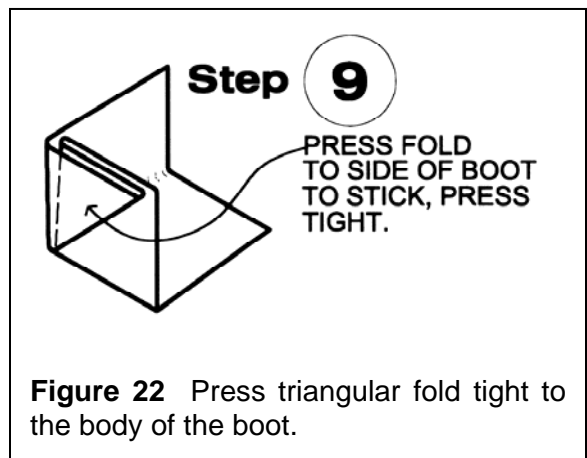

Figure 22 Press triangular fold tight to the body of the boot.
Step 9. Press the triangular corner against the boot to form a tight bond. See Figure 22.